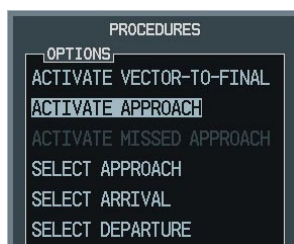

Figure 5-126 Manually Activate Approach
- b) Turn the large **FMS** Knob to highlight 'ACTIVATE APPROACH' as shown in Figure 5-126.